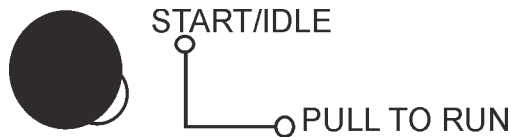

Figure 62. Engine Throttle Control Lever (Low)
2. Push the engine throttle control lever inward (Figure 62) to the “**LOW**” position.